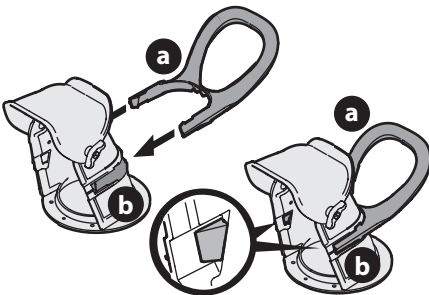

Figure 6
1. Place the chute handle (a) onto the chute (b) (Figure 6). Be certain that the handle is aligned in the channel on the chute and the tabs snap into place.